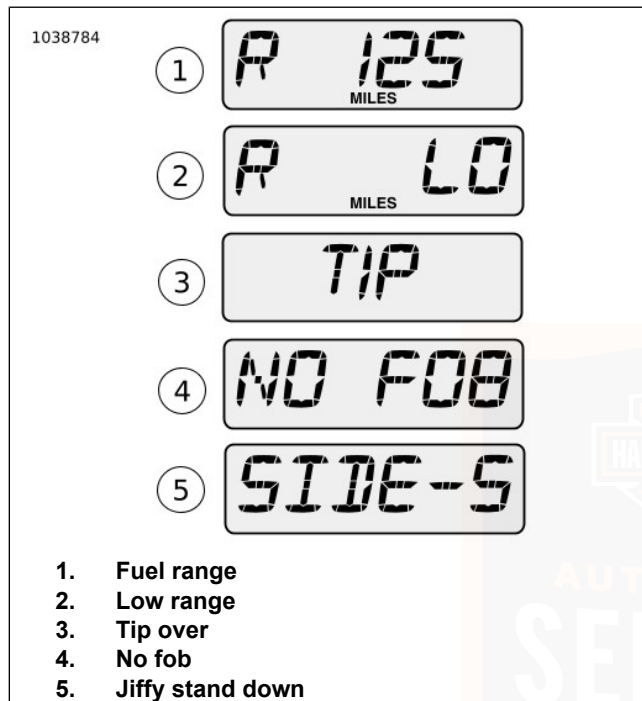

Figure 33. Odometer Window Displays
See Figure 33. The fuel range display (1) shows the approximate mileage available with the amount of fuel left in the fuel tank.
See Figure 33. After the fuel range drops to approximately 10 miles or 10 kilometers remaining, the fuel range display will scroll "R LO" (2) to indicate that the motorcycle will shortly run out of fuel.
See Figure 33. Should motorcycle be tipped over, the word "TIP" (3) appears in the odometer window. The engine can not start until reset.
See Figure 33. If the motorcycle is driven off leaving the fob behind, "NO FOB" (4) temporarily displays in the odometer window.
See Figure 33. On international (HDI) models, a "SIDE-STAND" (5) message will scroll across the display if the motorcycle is placed into gear while the jiffy stand is down.